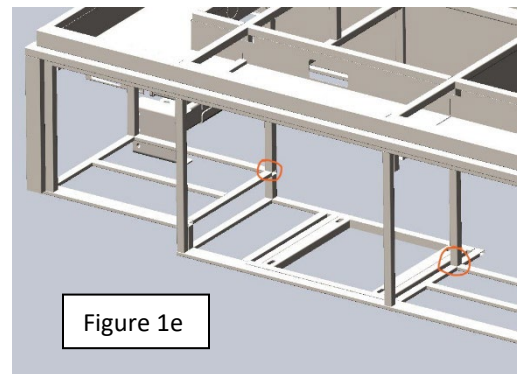

Figure 1e
3. Check the welds on the generator rack down tubes to the trusses. (Figure 1e)